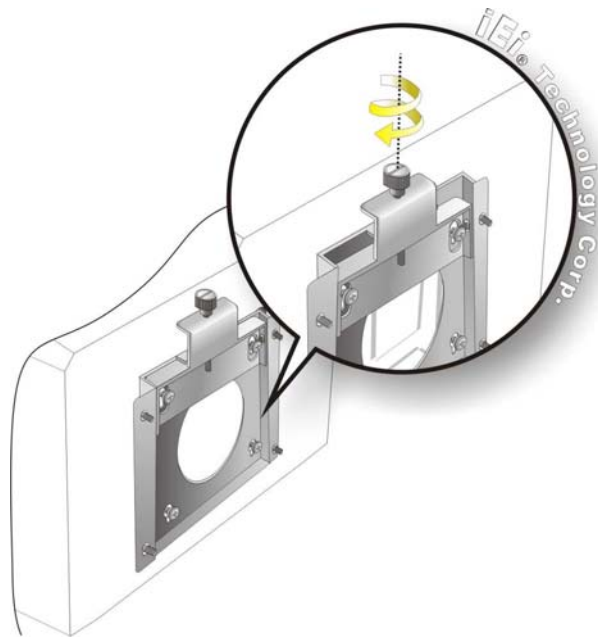

Figure 3-13: Secure the IOVU-752S
Step 9: Secure the panel PC by fastening the retention screw of the wall-mounting bracket (**Figure 3-13**).